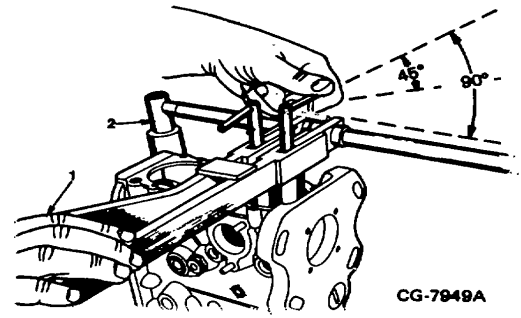

Figure 8.
- b. Turn tappet holder handles fully counterclockwise, grease ramps and guide piece. With spring compressors handles pointing in opposite directions, place spring compressor levers over first two tappets. Depress right lever of spring compressor as far as possible. Hold lever down and slowly turn right handle clockwise 45° (Figure 8).
- d. Depress right lever further and turn handle clockwise until the handle is at 90° from lever (Figure 8).